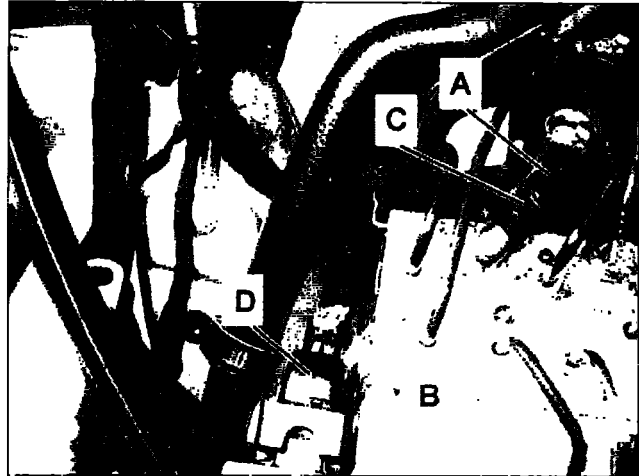

Figure 20
20. Connect the SBC wire harness connector (D, Figure 20) to the SBC hydraulic unit and secure with connector locking mechanism.